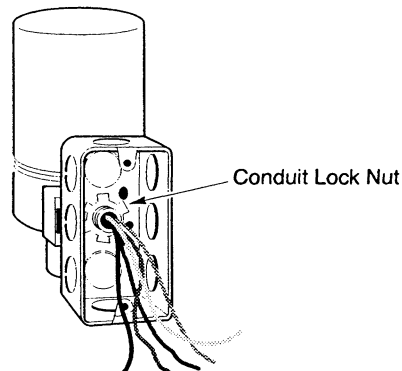

Figure-11 Attachment of Conduit Box to Threaded Adaptor.
7. Install the rigid conduit, the flexible conduit, etc. to the conduit box as required. Refer to Figure-11.